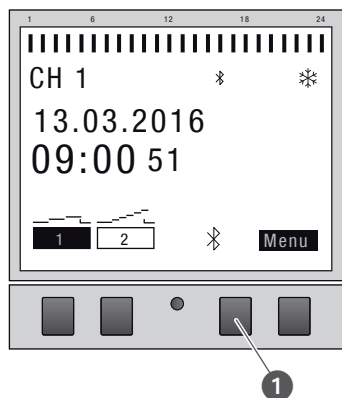

Fig. 26: Establishing a Bluetooth connection to the timer
2. Press the Bluetooth button (Fig. 26/1) on the timer.